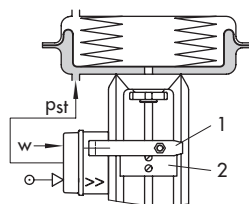
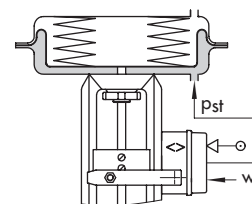
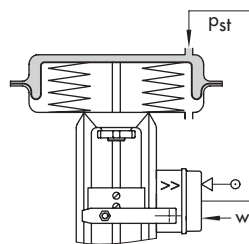
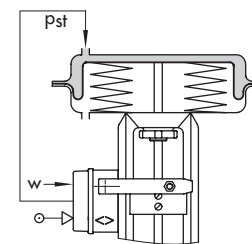

Fig. 4: Direction of action \gg
Fig. 5: Direction of action \ll
Fig. 6: Direction of action \gg
Fig. 7: Direction of action \ll
When the reference variable increases, the signal pressure can be selected to be increasing/increasing (direct action \gg) or increasing/decreasing (reverse action \ll). The direction of action depends on the position of the nozzle assembly that can be turned by 180° . The visible marking (\gg or \ll) indicates which direction of action is effective. On changing the direction of action or the fail-safe position, note that the positioner must also be mounted in a different position (Fig. 4 to Fig. 7).
Fig. 4 to Fig. 7 schematically illustrate the arrangement of the actuator, mounting position of the positioner, reference variable, and direction of action.
Actuator stem extends (Fig. 4/Fig. 5)
Actuator stem retracts (Fig. 6/Fig. 7)
Fig. 4 to Fig. 7 illustrate the different directions of action and the mounting positions of the positioner. Right and left attachment apply when looking onto the lever (1) and plate (2).